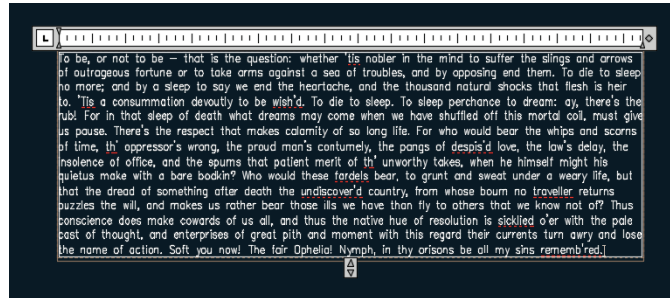

FIGURE 10.9 Importing text with the MTEXT command
- Click Hamlet.txt in the Select File dialog box that appears. Click Open, and text appears within the large rectangle (see Figure 10.9). The built-in spell checker identifies misspelled words by underlining them in red. Perhaps this is not surprising for English written 400 years ago, but in your own projects, right-click any underlined word that seems incorrect (which most likely wouldn't include company or product names, or technical jargon) to see some correctly spelled suggestions.